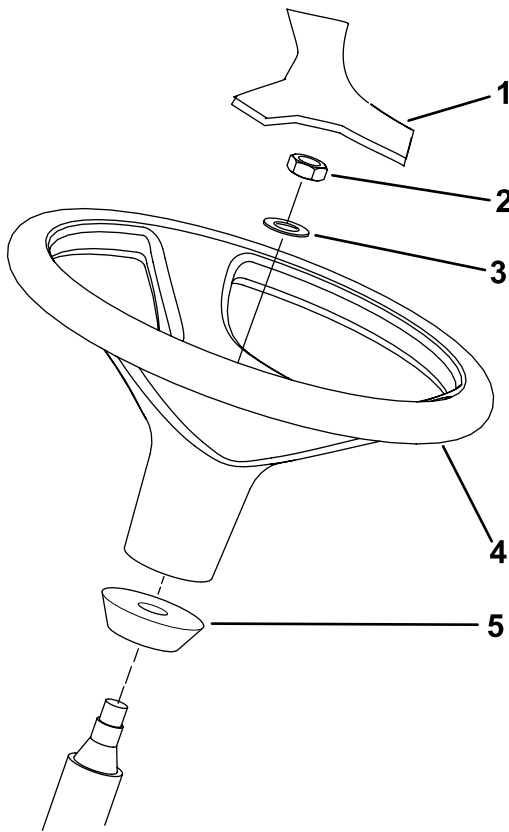

Figure 13
1. Remove the steering wheel from the shipping skid (Figure 13).
- Note:** Ensure that the foam collar remains on the steering shaft (Figure 13).
3. Slide the steering wheel and washer onto the steering shaft (Figure 13).
5. Mount the cover to the steering wheel (Figure 13).